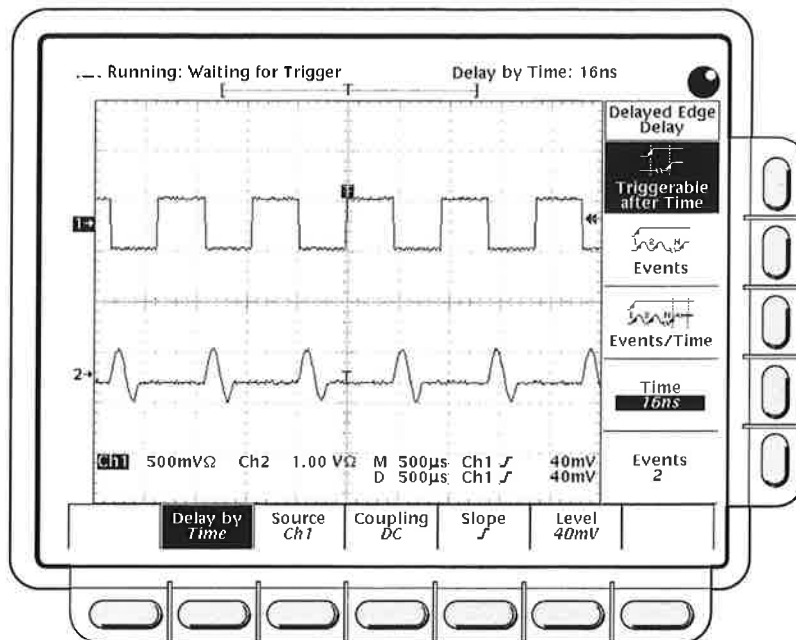

Figure 3-11: Delayed Trigger Menu
5. Press **SHIFT DELAYED TRIG** → **Delay by** (main) → **Triggerable After Time, Events, or Events/Time** (side) (Figure 3-11).